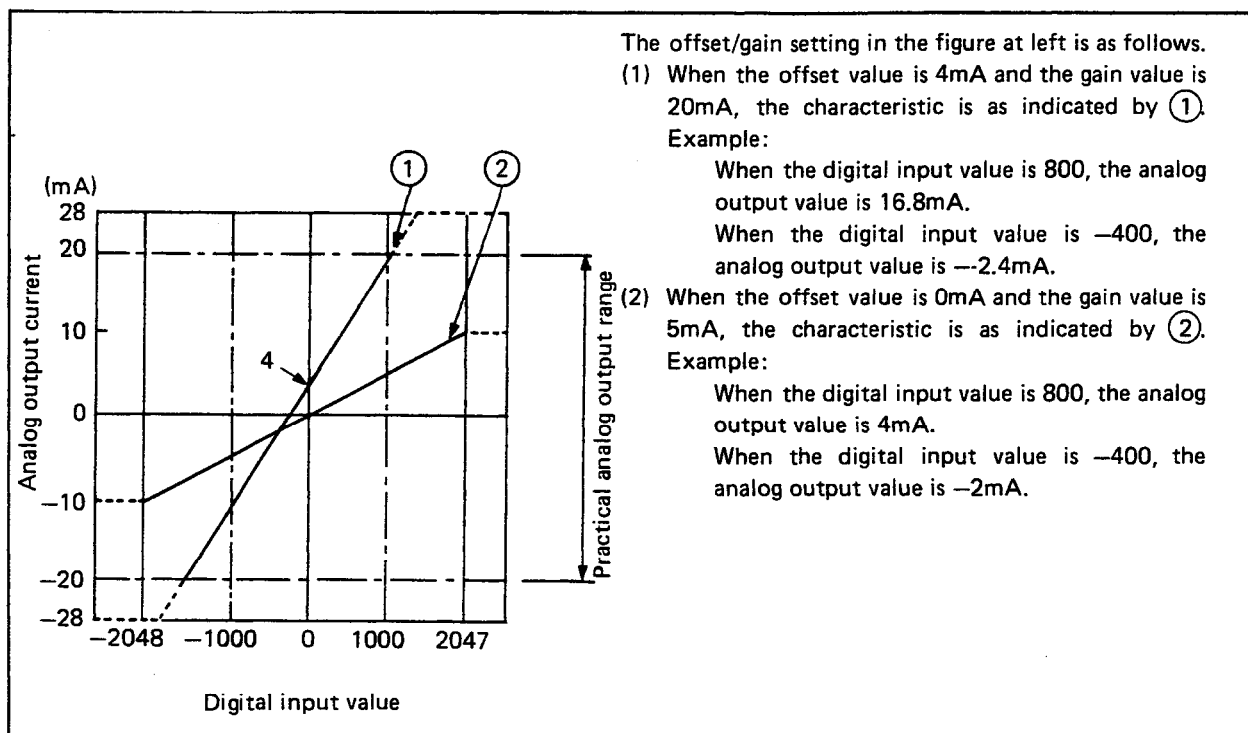

Fig. 2.3 Current Output Characteristic
Fig. 2.3 shows a current output characteristic graph for several offset/gain settings.
1. The maximum resolution and overall accuracy are within the range of performance specifications when the working analog current range is -20 to 0 to +20mA. Avoid use outside the above indicated range (dotted line on the current output characteristic graph in Fig. 2.3).